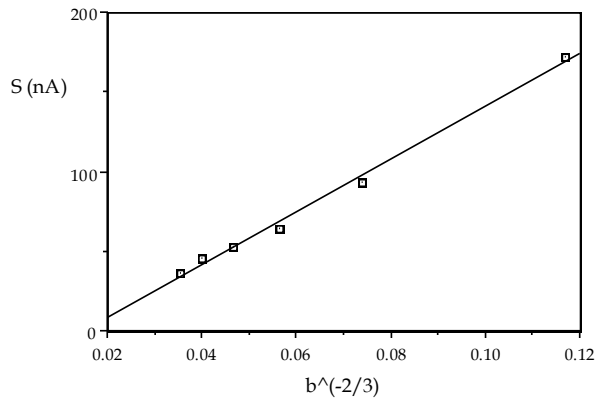

Fig. 5. Peak height versus spacer thickness to the power -2/3.
Several authors have described the relation between the layer thickness (i.e. spacer thickness) in a thin layer flow cell and the measured current (S) as $S = k b^{-2/3}$ where b is the spacer thickness and k a constant. Also for the VT-03 flow cell the relation between S and $b^{-2/3}$ results in a straight line (Fig. 5).